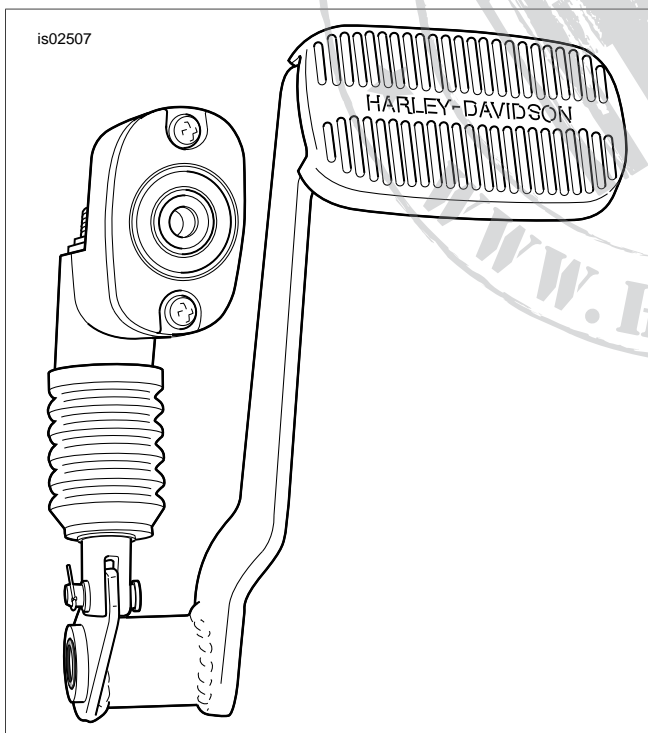

Figure 3. Brake Pedal/Master Cylinder Assembly
10. See Figure 3. Remove brake pedal/master cylinder assembly.